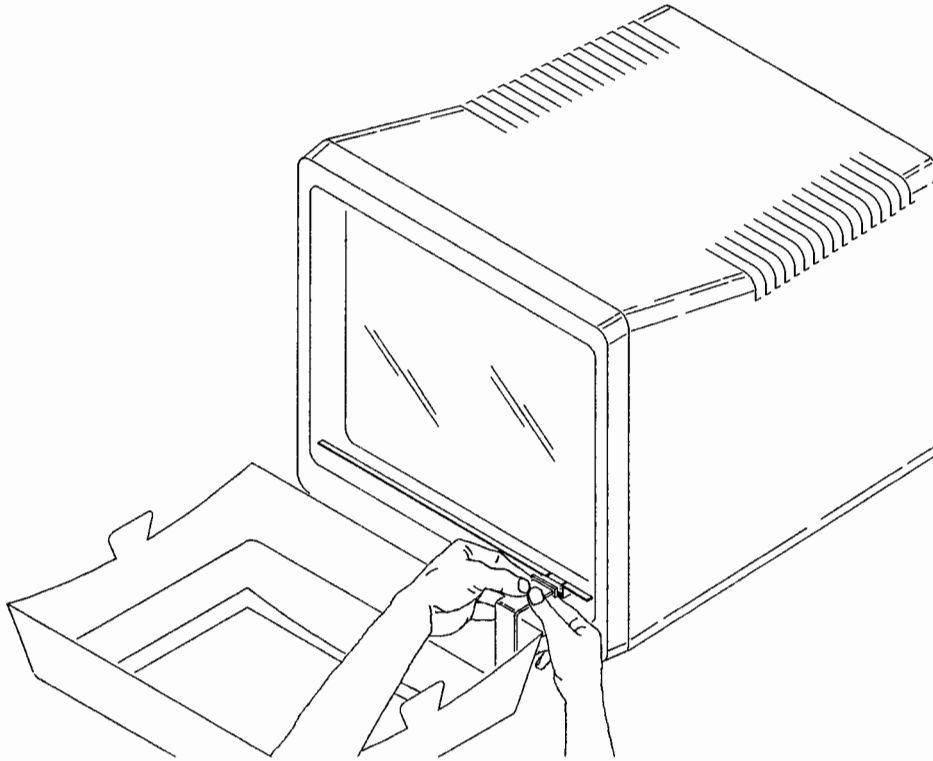

Figure 6-4.
5. Connect the HP Touch cable plug to the socket on the monitor. Make sure the cable is not twisted. The plug clicks into the socket when the connection is properly made (Figure 6-4).